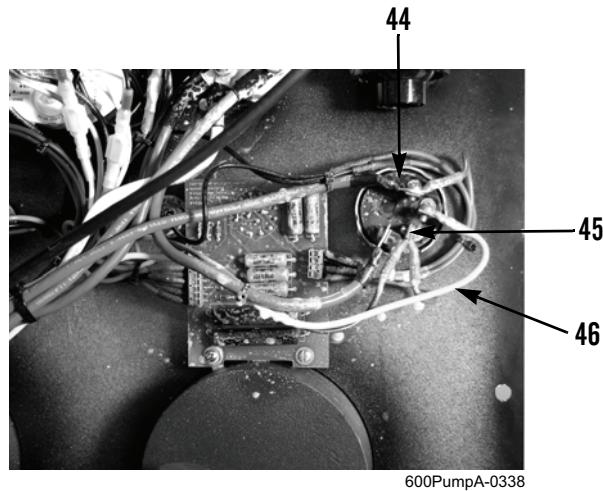
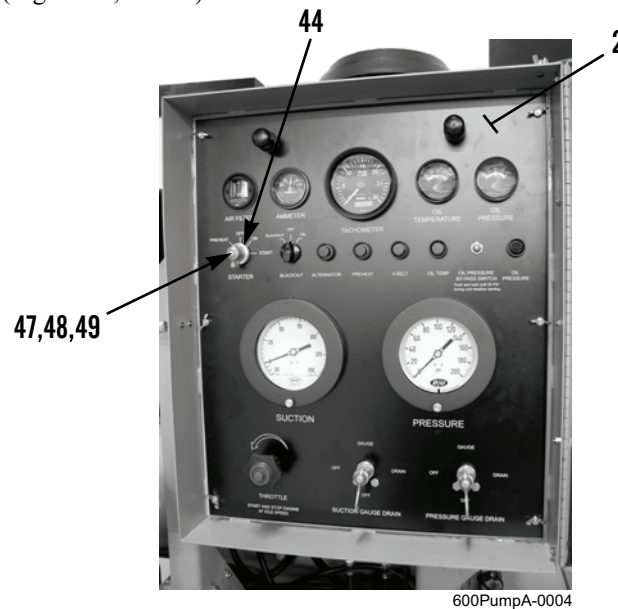

Figure 15. Engine Start Switch (Back of Panel).
Figure 16. Engine Start Switch (Front of Panel).
1. Remove four screws (Figure 15, Item 45) and disconnect six wires (Figure 15, Item 46) from engine start switch (Figure 15, Item 44).
2. Remove screw (Figure 16, Item 48), knob (Figure 16, Item 47), nut (Figure 16, Item 49), and engine start switch (Figure 15, Item 44) from panel (Figure 16, Item 2).
1. Install engine start switch (Figure 16, Item 44), nut (Figure 16, Item 49), knob (Figure 16, Item 47), and screw (Figure 16, Item 48) on panel (Figure 16, Item 2).
2. Connect six wires (Figure 15, Item 46) and install four screws (Figure 15, Item 45) on engine start switch (Figure 15, Item 44).